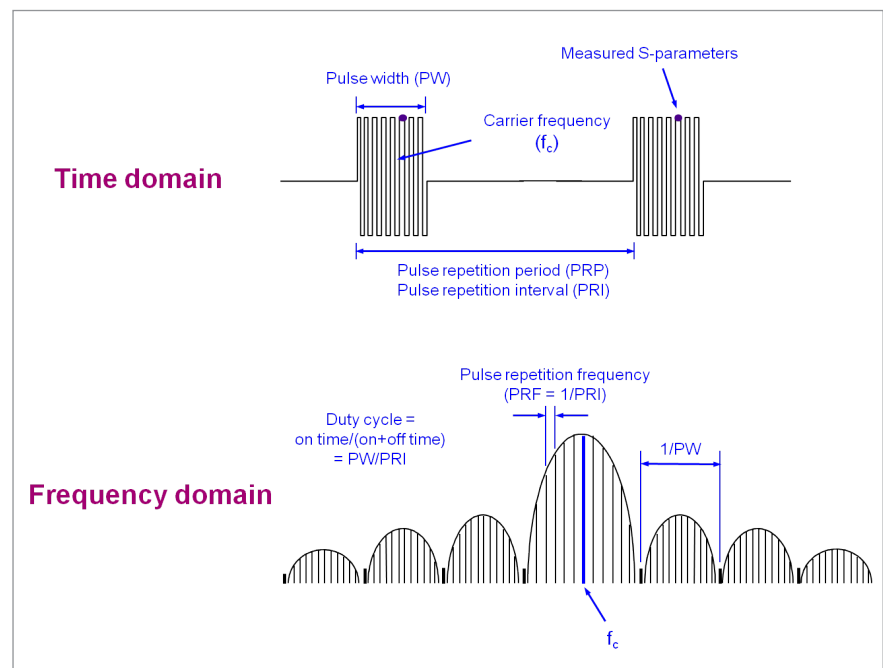

Figure 3. Pulsed-RF network analysis terminologies
Figure 3 shows an important measure of a pulsed RF signal and its relationship between the time and frequency domain. When a signal is switched on and off in the time domain (pulsed), the signal's spectrum in the frequency domain has a  $\sin(x)/x$  response. The width of the lobes is inversely related to the pulse width (PW). This means that as the pulses get shorter in duration, the spectral energy is spread across a wider bandwidth. The spacing between the various spectral components is equal to the pulse repetition frequency (PRF). If the PRF is 10 kHz, then the spacing of the spectral components is 10 kHz. In the time domain, the repetition of pulses is expressed as pulse repetition interval (PRI) or pulse repetition period (PRP), which are two terms with the same meaning.